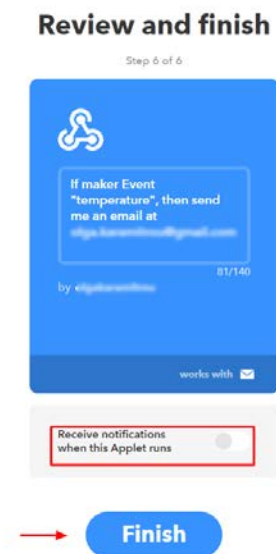

Figure 83: Make an IFTTT applet, Finish
11. The IFTTT applet has been created. Enable the switch to receive notifications and click '**Finish**' button on the '**Review and finish**' screen (Figure 83). To receive events for all the supported event names (temperature, humidity, pressure, and button), please repeat the above procedures and add as many applets as the supported events names.